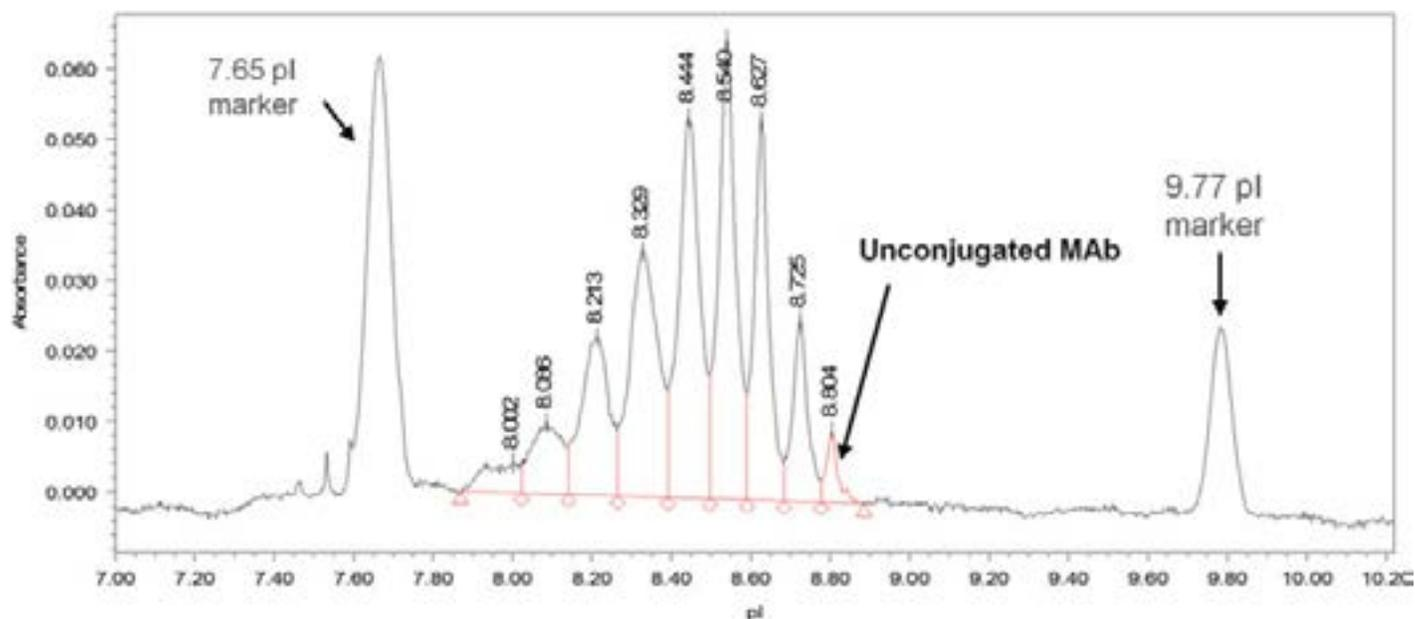

FIGURE 27: Electropherogram of immunoconjugate sample showing unconjugated antibody and conjugates with variable amounts of conjugated drug.
Scientists at Biogen developed an icIEF-based iCE method for quantitative analysis of recombinant mAb (rmAb) charge heterogeneity. A final iCE separation profile for the rmAb is shown in **FIGURE 27**. Method development work was completed within two days, a significantly shorter time than is required for developing an IEX method. A representative IEX chromatogram for the rmAb is shown. The authors stated that iCE offers faster analysis and requires less development work. A typical analysis can be done in 15 to 20 minutes compared with over 60 minutes with IEX. Additionally, small differences in mobile phase preparation or column packing with IEX may result in altered protein isoform migration times and failure to meet the assay acceptance criteria. In contrast, pI shifts with iCE are not an issue for a selected sample matrix, resulting in better profile reproducibility. The authors found that the iCE method is not only suitable and also advantageous as a release and stability assay for charge heterogeneity determination. They stated that it can be successfully used as a replacement for IEX.
FIGURE 27: Comparing icIEF with IEX. (A) iCE profile and (B) IEX profile for rmAb A1-A5 are acidic peaks 1-5, B1-B2 are basic peaks 1 and 2. iCE resolved more charge variants compared to IEX. The acidic shoulder next to the main peak was also more resolved with iCE compared to IEX.
FIGURE 27: Spectrum data for the System Suitability in 2D (top) and 3D (bottom). In the 3D plot, time is on the x-axis, absorbance is on the y-axis, and pixel position is on the z-axis.